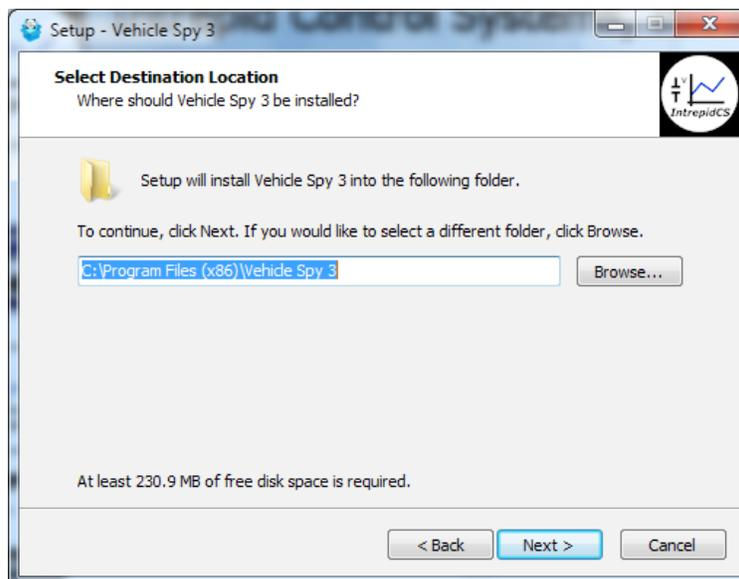

Figure 24: Choosing the Destination Location.
7. **Select Destination Location:** Choose where you want to install Vehicle Spy 3 (Figure 24). We normally recommend using the default location. Click .